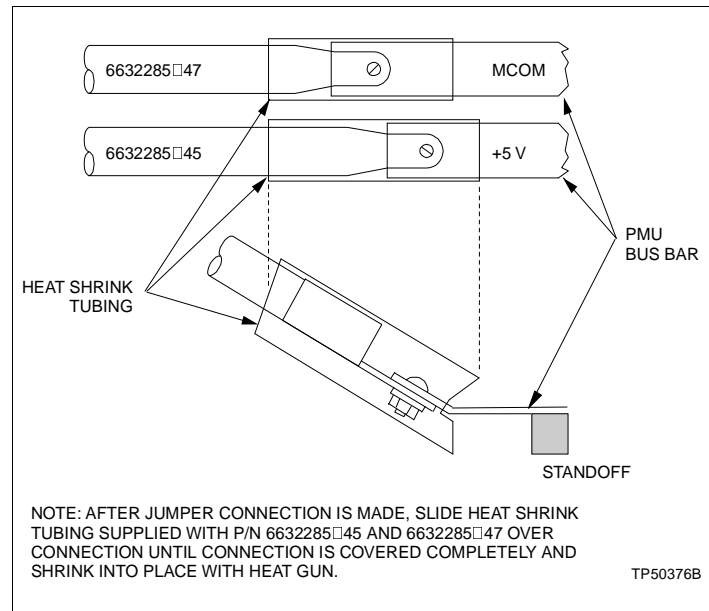

Figure 3-7. Heat Shrink Tubing for 5 VDC Connection
4. Slide heat shrink tubing over PMU connection. See Figure 3-7. Insure that connections are properly covered, then use heat gun to shrink the tubing into place.
7. Slide heat shrink tubing over PMU connection (see Figure 3-7). Insure that connections are properly covered, then use heat gun to shrink the tubing into place.